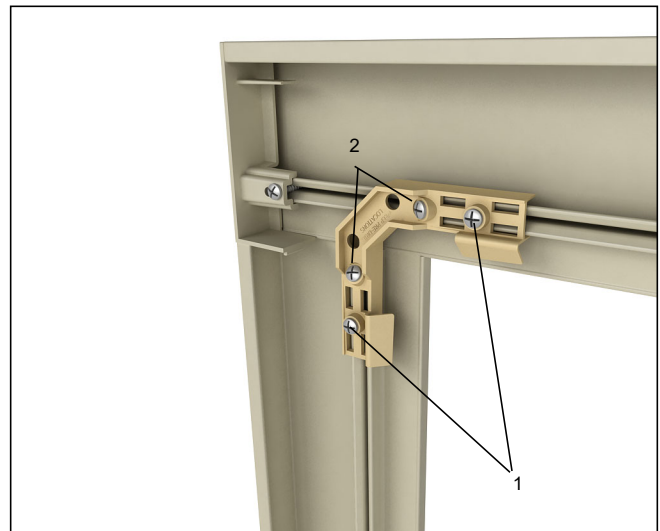

Figure 60
5. Align casing with tab on end caps. Fasten the corner key with included screws. First apply the outside 90° screws (1) followed by the two inside angled screws (2). Fasten until joints are tight. Over tightening may cause screw channel to strip out. See *figure 60*.